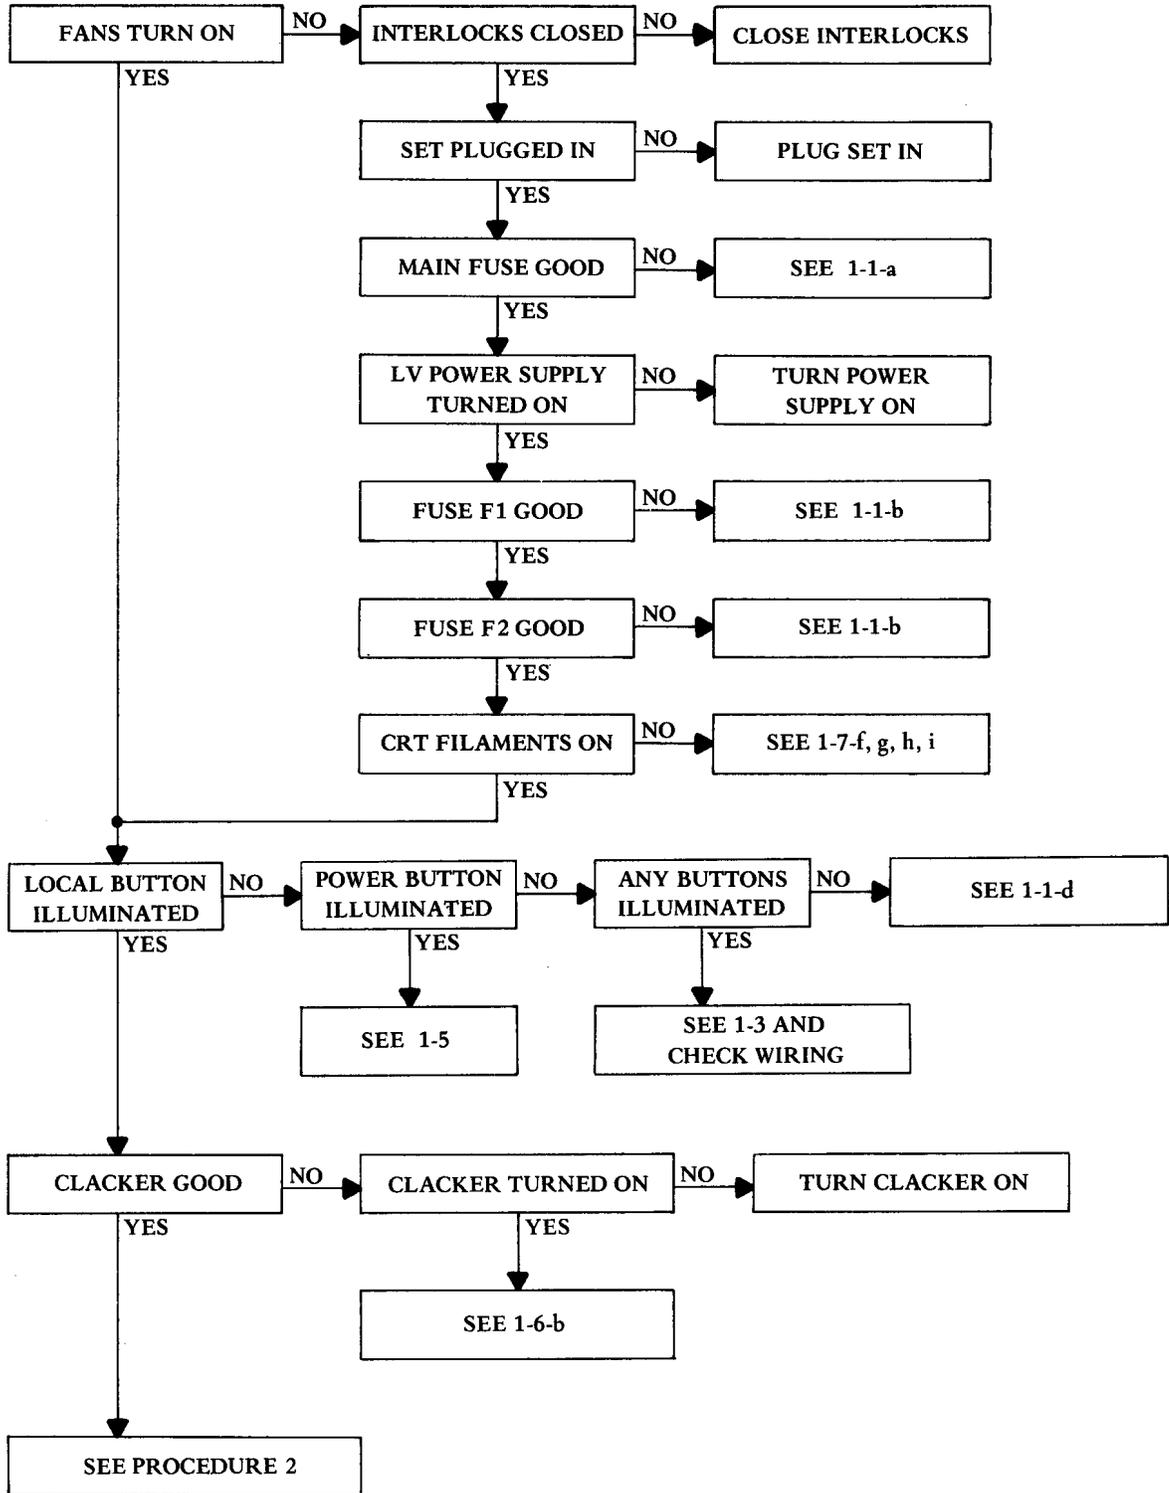

Figure 3 - Procedure 1
3.02 The trouble analysis is broken down into nine specific areas (Figures 3 through 14). Each area has a series of steps that should be followed in order to arrive at the cause of the trouble. The area in which the trouble occurs is the only one that has to be checked.